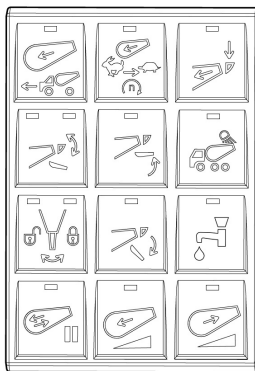
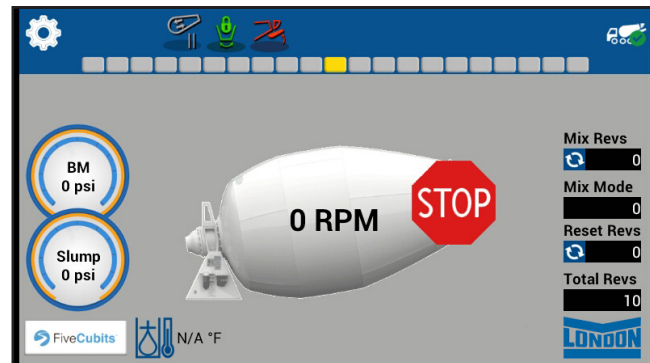

Figure 1. In-Cab Keypad
Figure 2
4. In-cab control keypad will illuminate briefly (Figure 1) and the touch screen display will power up (Figure 2).